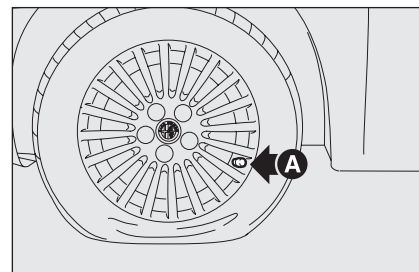

fig. 13
- ☐ set the wheel to be repaired with valve **A-fig. 13** in the position shown in the figure, **then pull up the handbrake**, take the quick tyre repair kit and put it on the ground near the wheel to be repaired;